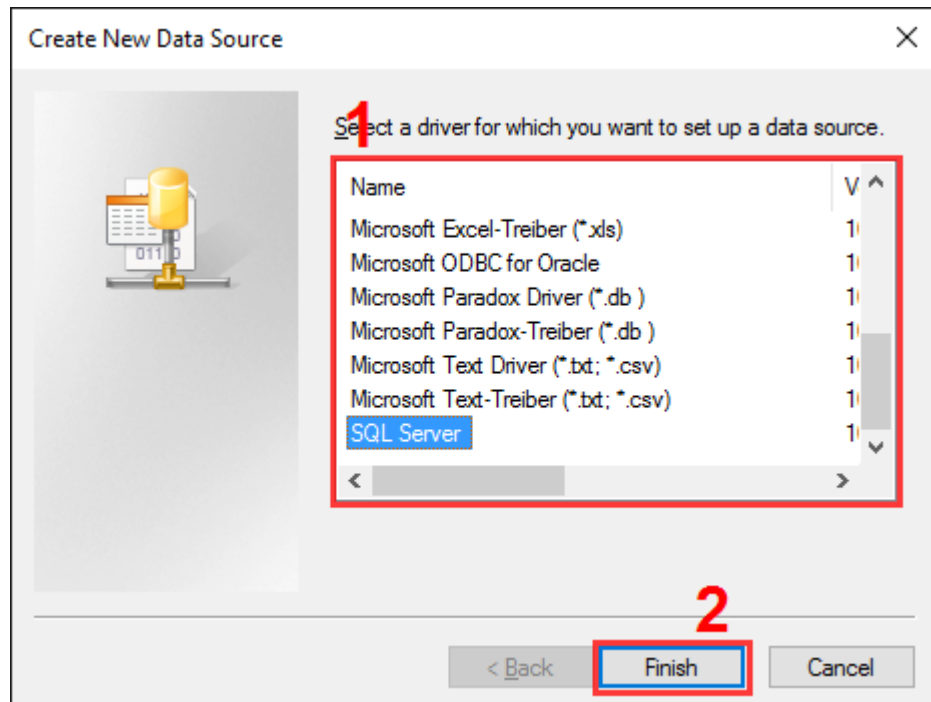

Figure 2. Selecting a driver
2. In the window that opens, select a driver for your database (Figure 2).